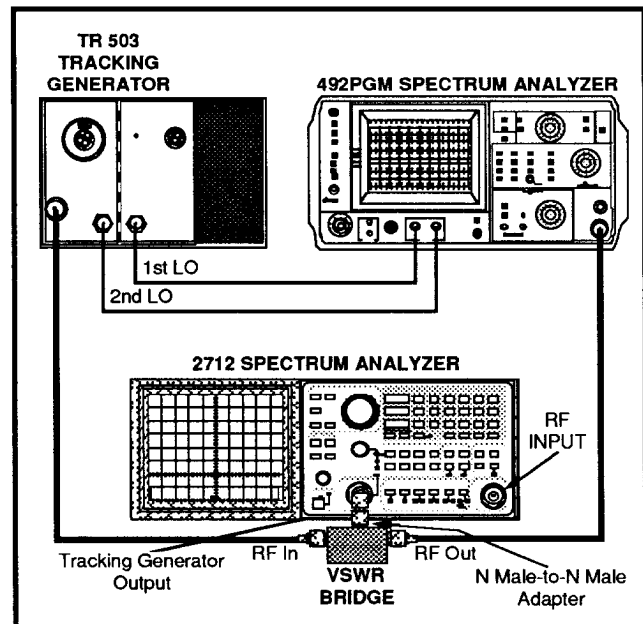

Figure 3-6. Test setup for measuring return loss.
- (1) Recall default power-up settings by pressing UTIL 1 1.
- (2) Connect the test equipment as shown in Figure 3-6.
- (3) Select the following settings on the test spectrum analyzer: